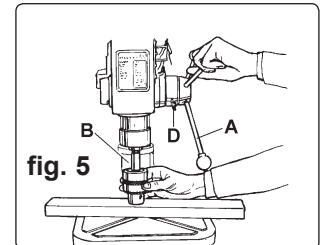

fig. 5
- 5.1.9. Screw the three feed handles and knobs to the hub of the pinion shaft (fig.5.A).
- 5.1.11. Insert larger tapered end of arbor (fig.5 B) into drill spindle, fit chuck to protruding end of arbor and hold in place.
- 5.1.12. Turn feed handles to bring nose of chuck down onto wood (fig.5). Firmly pull on feed handle to seat arbor tapers in spindle and chuck.
- 6.6.2. Loosen locking screw (fig.5.D) and set the scale to the depth desired. Tighten locking screw.